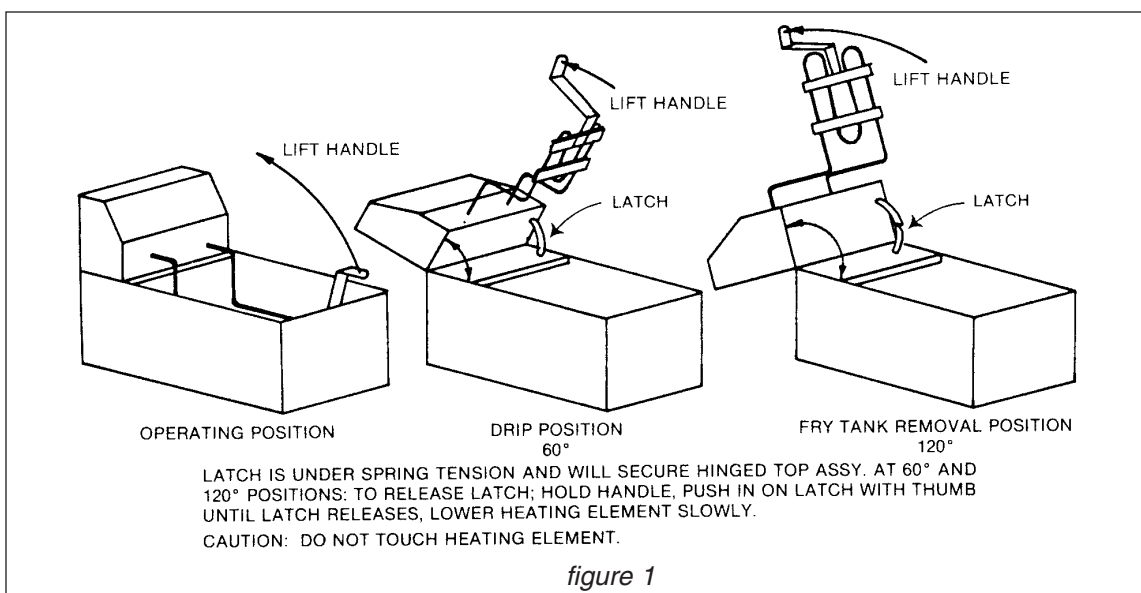

figure 1
- 3) Raise heating element(s) to the first stop, allow the fat to drain for several minutes and then raise the element(s) to the fully raised position. Be sure that the latch has properly engaged. See *figure 1* at bottom.